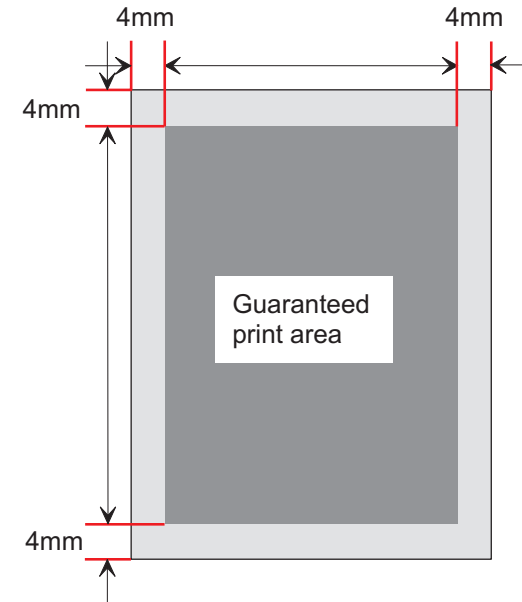

Figure 1-2. Guaranteed Printable Area
- Guaranteed print area: Area other than 4 mm inward from each edge. (See Figure 1-2.)